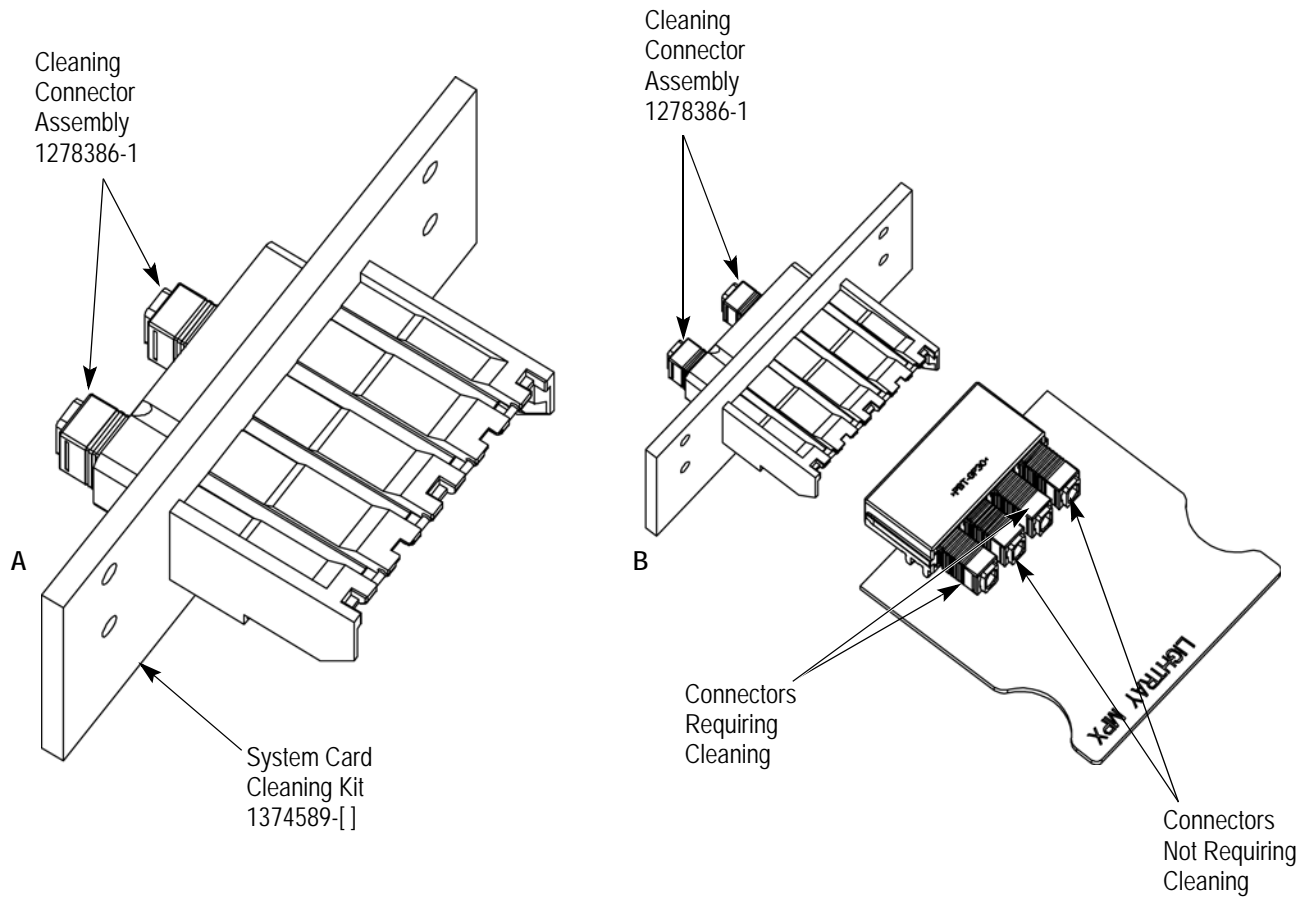

Figure 8
2. Insert Cleaning Connector Assembly 1278386-1 (with cleaning insert installed) into System Card Cleaning Kit 1374589-[] as shown in Figure 8,A. Multiple Cleaning Connector Assemblies can be placed in the System Card Cleaning Kit to correspond to the number of positions in the mating system card.
Connectors not requiring cleaning can be left in the system card and an empty space can be left in the System Card Cleaning Kit for the corresponding positions. See Figure 8,B.